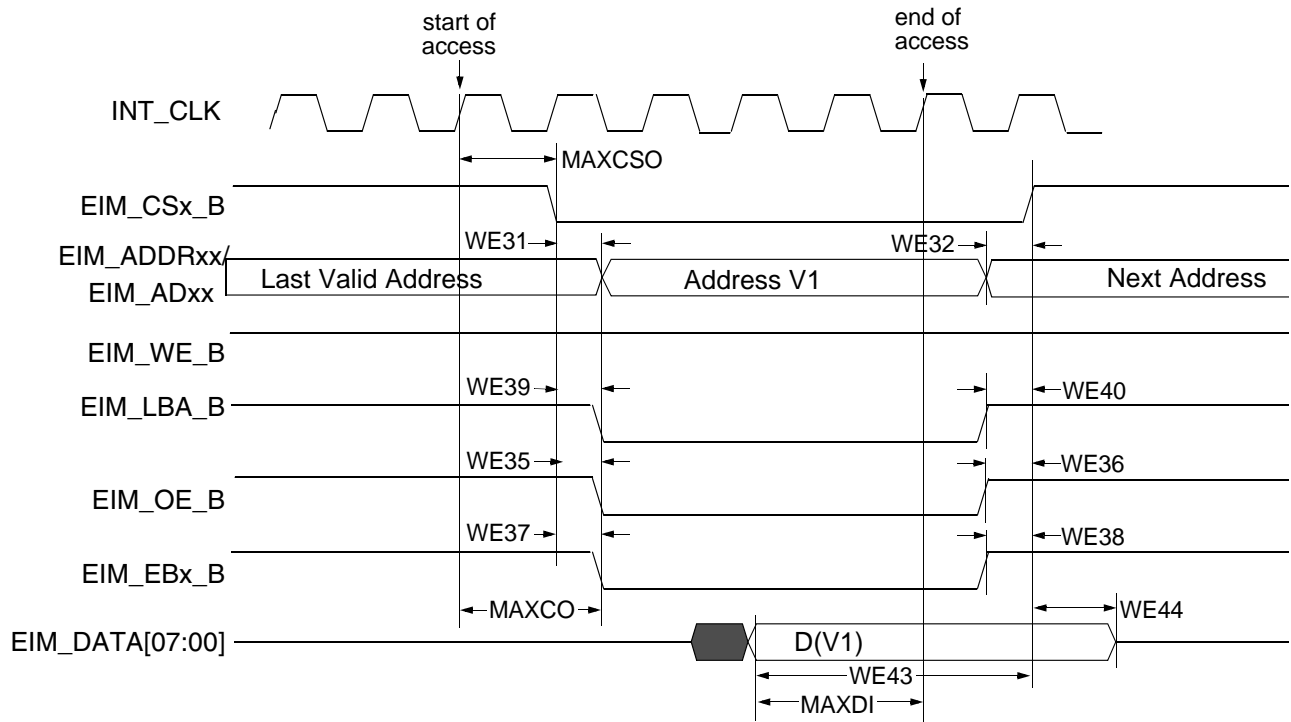
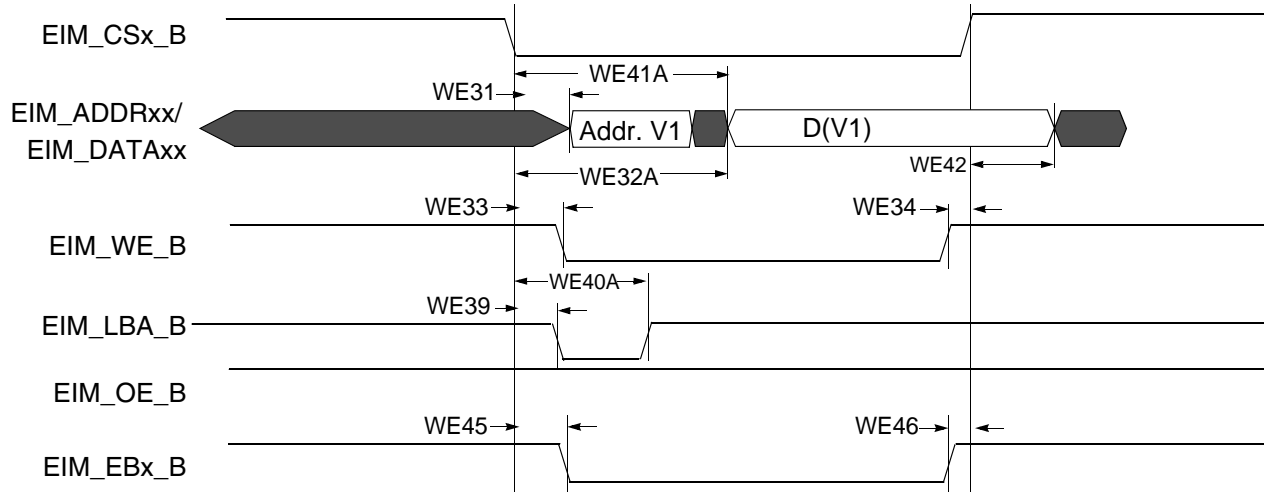
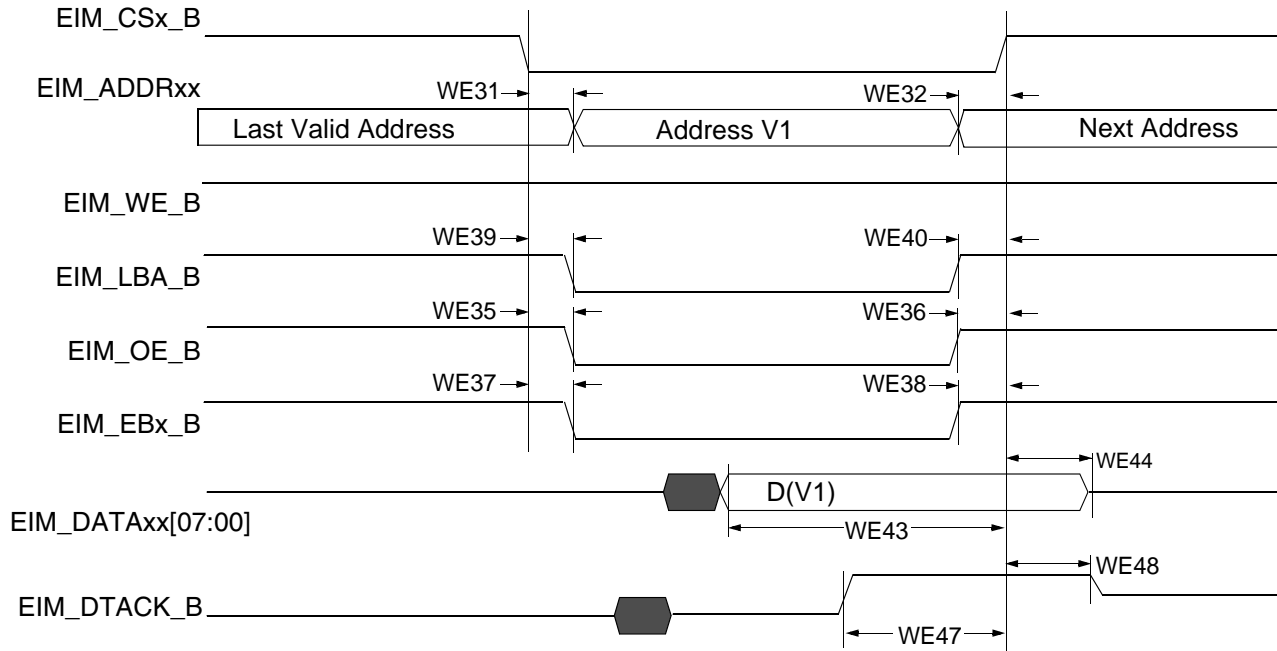

Figure 18. Asynchronous Memory Read Access (RWSC = 5)
Figure 21. Asynchronous A/D Muxed Write Access
Figure 22. DTACK Mode Read Access (DAP=0)
Figure 18 through Figure 22 and Table 41 provide timing parameters relative to the chip select (CS) state for asynchronous and DTACK EIM accesses with corresponding EIM bit fields and the timing parameters mentioned above.
Asynchronous read and write access length in cycles may vary from what is shown in Figure 18 through Figure 21 as RWSC, OEN & CSN is configured differently. See the i.MX 6DualPlus/6QuadPlus reference manual (IMX6DQPRM) for the EIM programming model.